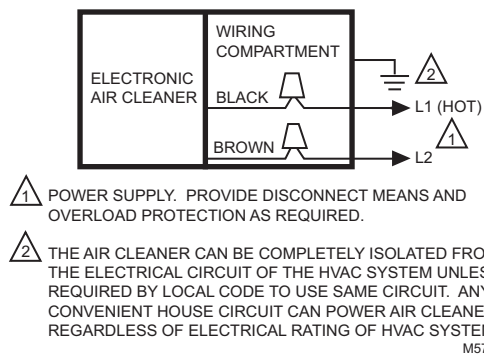

Fig. 12. Conduit connection for electronic air cleaner.
8. Wire the air cleaner directly to line voltage using wire nuts. See Fig. 12. Secure ground connection to the green ground screw on the wiring compartment barrier.